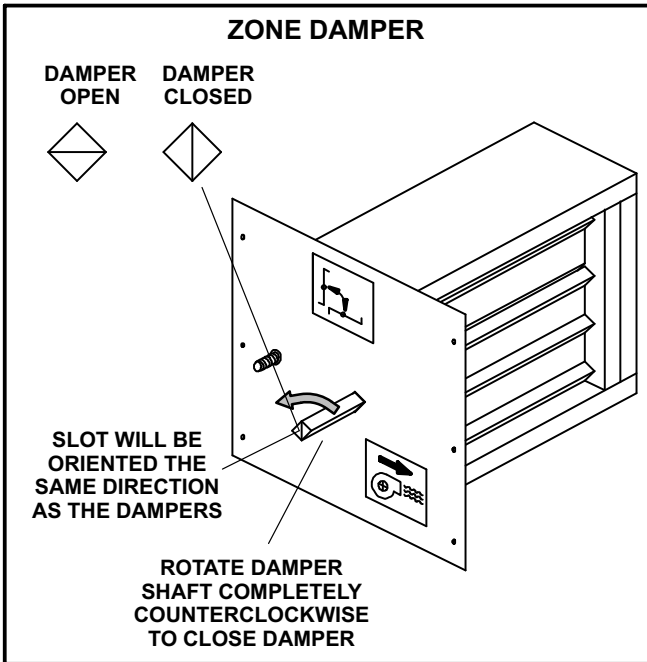

FIGURE 6
- 5- Rotate the damper shaft fully counterclockwise. The dampers will be completely closed. See figure 6. The slot on the end of the damper shaft will indicate the position of the damper.